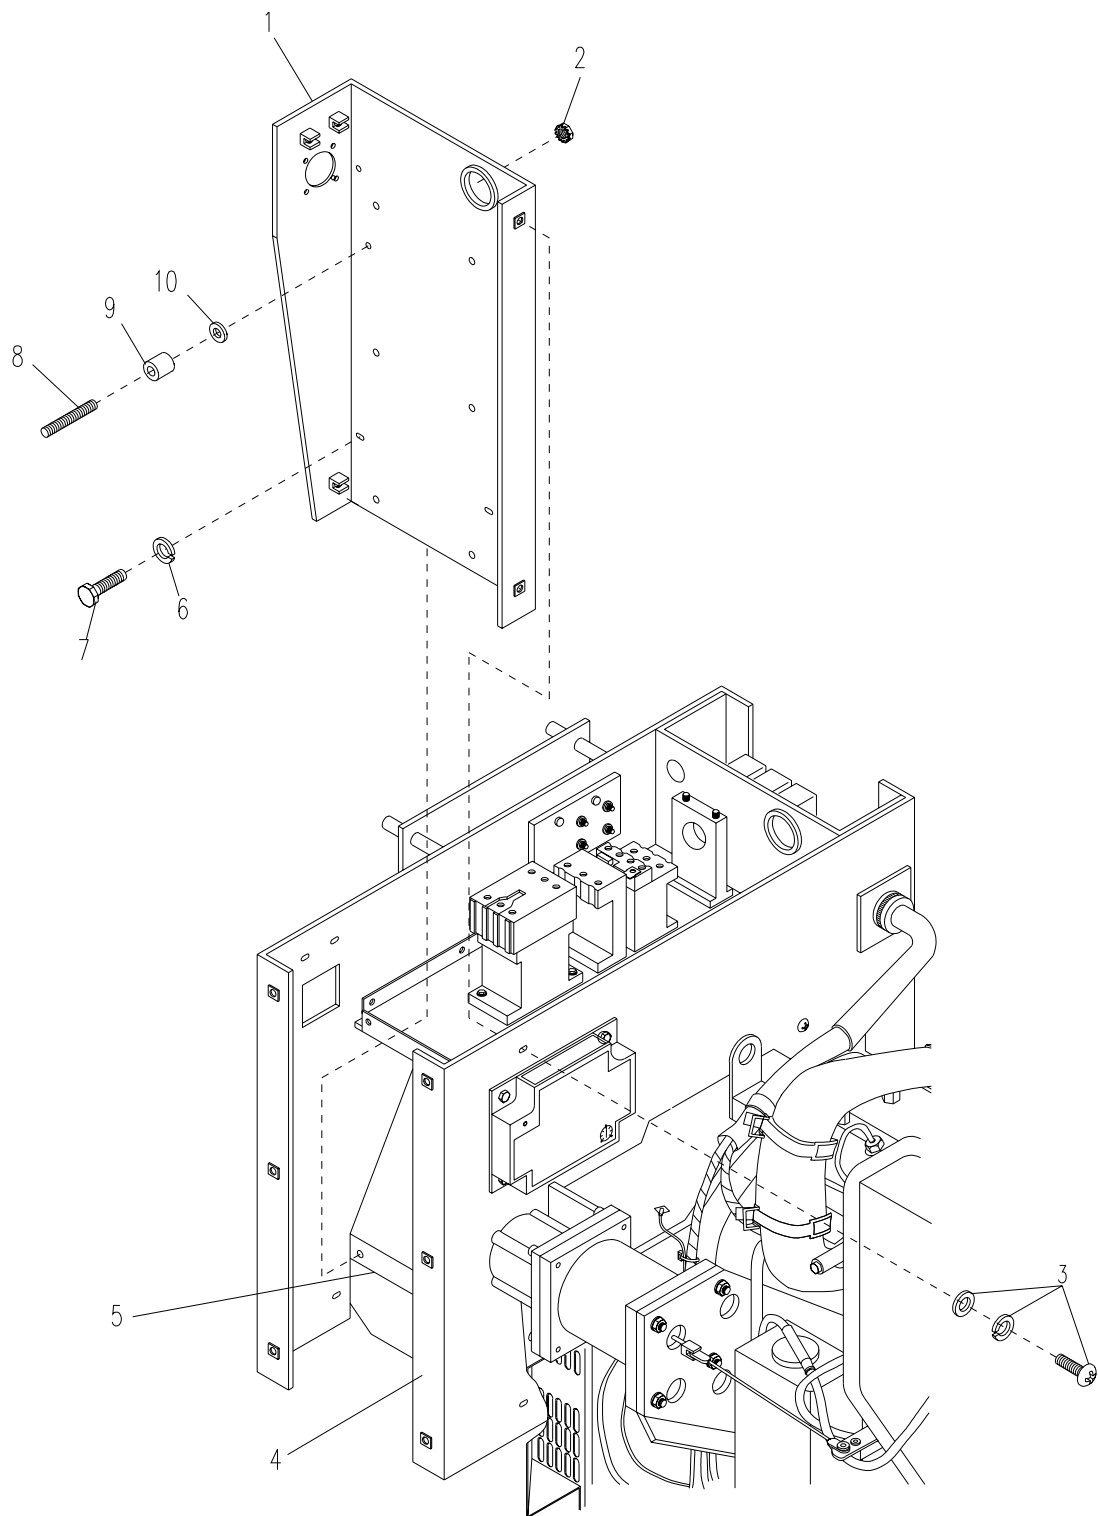

Figure 5-13. DC Box Subassembly
- a. Remove six screws (JTACS and WIN-T), or seven screws (SICPS), flat and lock washers (3, Figure 5-13) securing DC box (1) to generator housing (4).
- b. Remove two bolts (7) (JTACS) and lock washes (6), or three bolts (SICPS and WIN-T), flat and lock washers securing DC box (1) to generator (5) and remove DC box (1).
- c. Remove six nuts with captive washers (2), six studs (8), vibration mounts (9), and washers (10) from DC box (1).
- d. Install six washers (10), vibration mounts (9), and studs (8) on DC box (1) and secure with six nuts with captive washers (2).
- e. Align holes and secure DC box (1) to generator (5) with two bolts (7) (JTACS) and lock washers (6), or three bolts (SICPS and WIN-T), flat and lock washers.
- f. Secure DC box (1) to generator housing (4) with six screws (JTACS and WIN-T), or seven screws (SICPS), flat and lock washers (3).